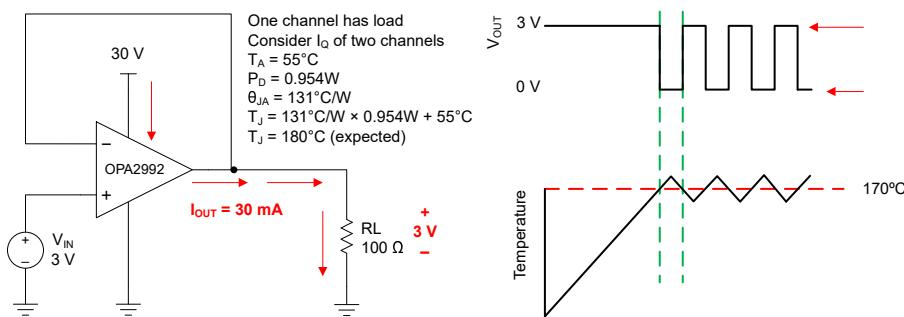

Figure 7-4. Thermal Protection
The internal power dissipation of any amplifier causes its internal (junction) temperature to rise. This phenomenon is called *self heating*. The absolute maximum junction temperature of the OPAX992 is 150°C. Exceeding this temperature causes damage to the device. The OPAX992 has a thermal protection feature that reduces damage from self heating. The protection works by monitoring the temperature of the device and turning off the op amp output drive for temperatures above 170°C. Figure 7-4 shows an application example for the OPA2992 that has significant self heating because of its power dissipation (0.954 W). In this example, both channels have a quiescent power dissipation while one of the channels has a significant load. Thermal calculations indicate that for an ambient temperature of 55°C, the device junction temperature reaches 180°C. The actual device, however, turns off the output drive to recover towards a safe junction temperature. Figure 7-4 shows how the circuit behaves during thermal protection. During normal operation, the device acts as a buffer so the output is 3 V. When self heating causes the device junction temperature to increase above the internal limit, the thermal protection forces the output to a high-impedance state and the output is pulled to ground through resistor R_L . If the condition that caused excessive power dissipation is not removed, the amplifier will oscillate between a shutdown and enabled state until the output fault is corrected. Please note that thermal performance can vary greatly depending on the package selected and the PCB layout design. This example uses the thermal performance of the SOIC (8) package.